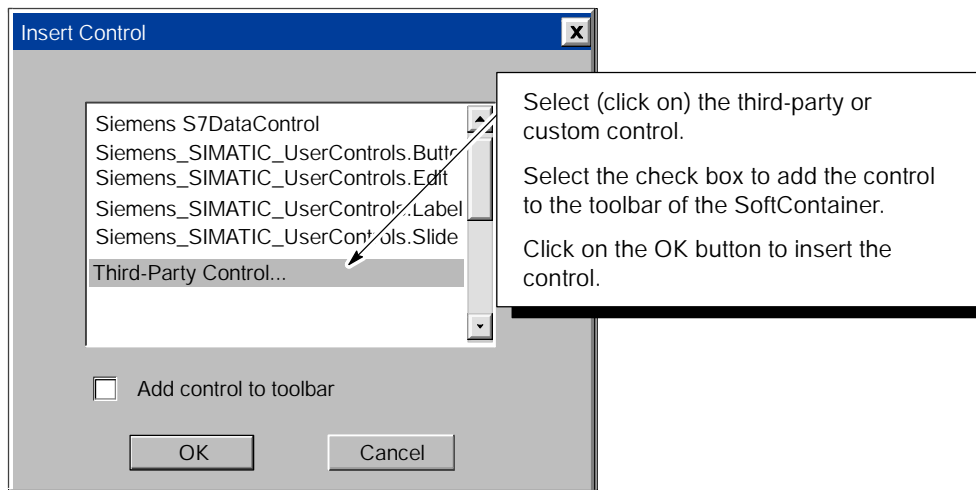

Figure 6-4 Inserting a Third-Party Control into the Process Form
2. As shown in Figure 6-4, select the custom or third party control to be added to the process form. (You can add the control to the toolbar of the SoftContainer by selecting the "Add control to toolbar" check box. This allows you to use the icon in the toolbar for inserting the control into the process form.)